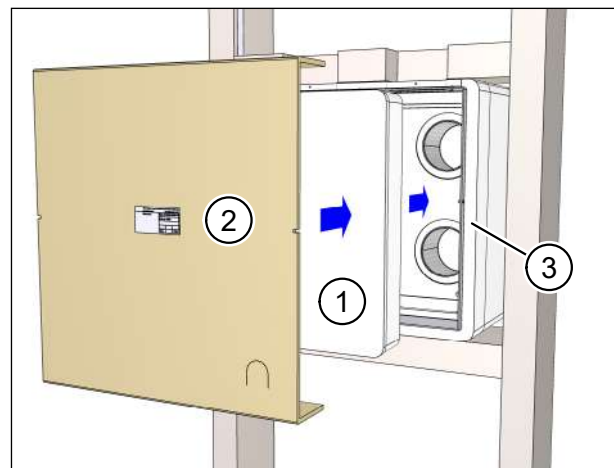

Fig. 51: Inserting the protective cover and plaster cover
- ▶ Insert the protective cover (item 1 in Fig. 51) into the wall box (item 3 in Fig. 51).
- ▶ Insert the plaster cover (item 2 in Fig. 51) into the wall box (item 3 in Fig. 51) as far as it will go.